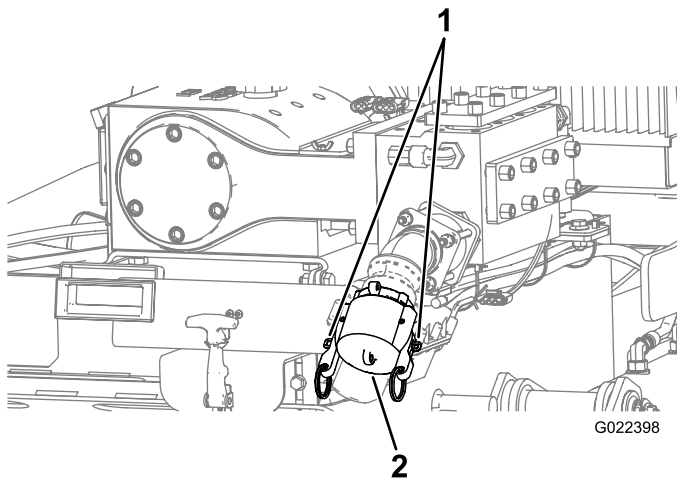

Figure 25
1. Raise the cam-lock levers on the pump-inlet cap and remove the cap (Figure 25).